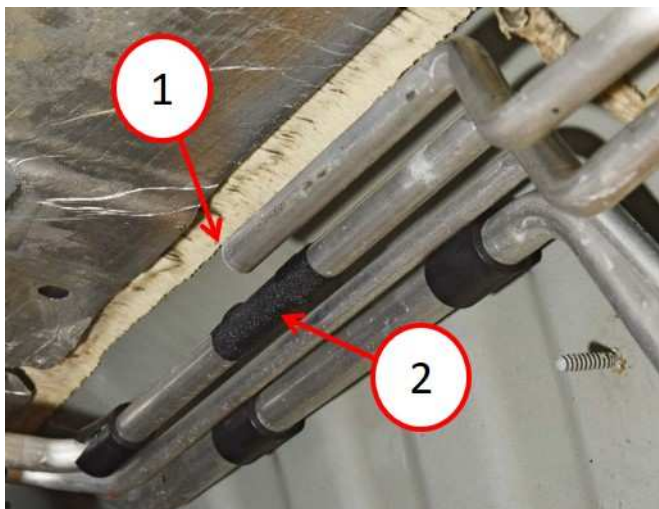

Fig. 5
- Using a suitable pipe cutting tool, measure and mark a cut location on the original rear heater coolant return tube on the vehicle half way on the straight section of the tube (Fig. 5) .
- Wrap the adjacent tube with Tesa tape or equivalent, to prevent the tube splice from making contact with the tube (Fig. 5) .